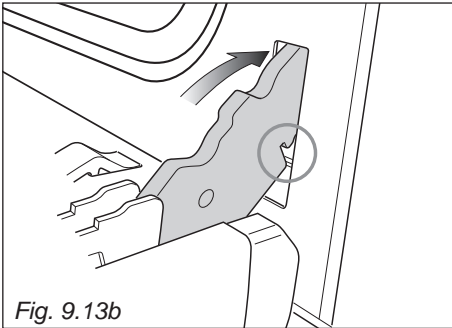

Fig. 9.13b
2. Insert the hinge tongues into the slots, making sure that the groove drops into place as shown in the figure 9.13b.